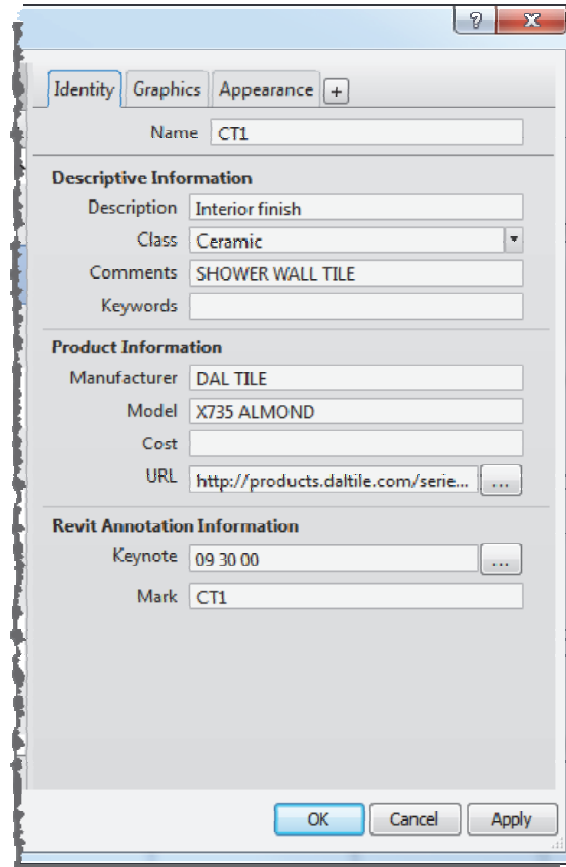

FIGURE 4-4.2 Material Browser; Identity tab
11. Finish entering the information on the *Identity* tab as shown in Figure 4-4.2.
Note that the *Class* being set to *Ceramic* on the *Identity* tab (Figure 4-4.2) only relates to which category the *Material* is listed under in the *Material Browser*, and does not directly relate to the actual material assigned on the *Appearance* tab. However, you should make sure they match so there is no contradiction.